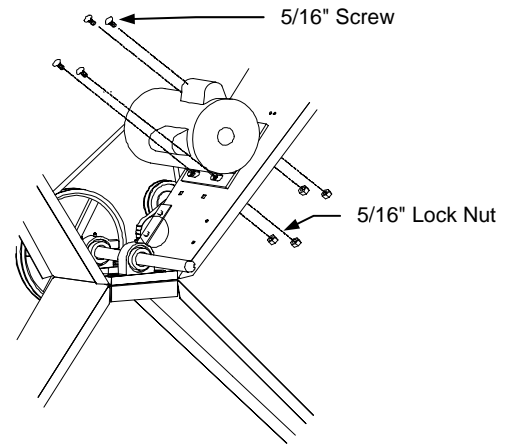

Figure 1
3. Remove the four 5/16" cap screws holding the motor in place. See Figure 1. Set the motor aside.